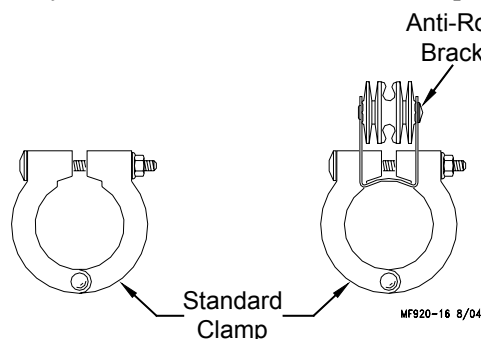

Figure 34. Tube Clamps
4. Place a Tube Clamp Assembly or Clamp/Anti-Roost Bracket at each joint. **Figure 34** shows the standard Clamp and Clamp/Anti-Roost Bracket.